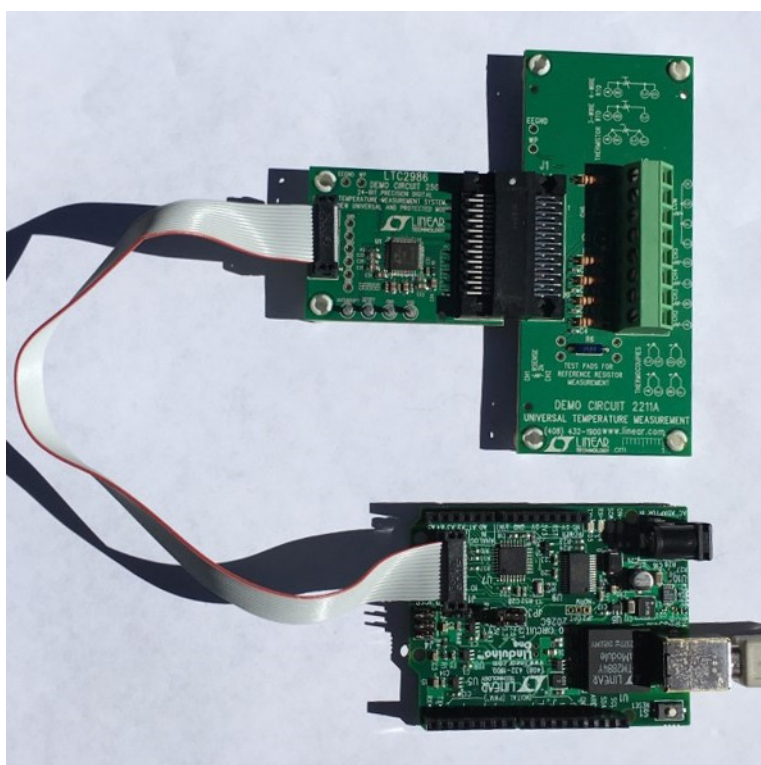

Figure 15. Setup with DC2211 Daughter Board
The demo software has a corresponding configuration for each daughter board. Figure 15 shows such a setup.
The DC2211 Universal Temperature Measurement board is shown at the top right of Figure 15. It includes a sense resistor and a diode. The measured sense resistance was stored on an EEPROM chip when the DC2211 was tested.
- 1) Plug the setup, which should look similar to what is shown in Figure 15, into a computer.